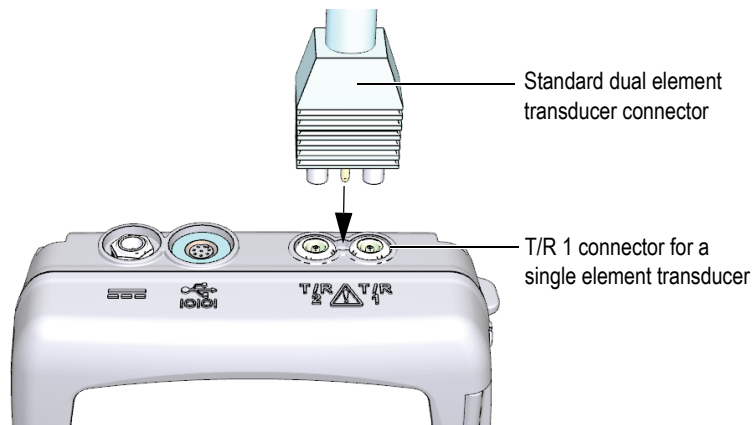

Figure 5-1 Plugging the transducer
1. Plug the transducer into the transducer connector(s) at the top of the 38DL PLUS case (see Figure 5-1 on page 58). Use T/R 1 for a single element transducer.